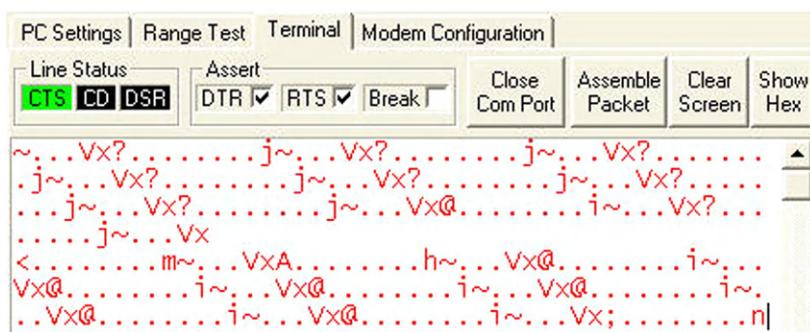

FIGURE 3.6 A raw-data message from an XBee transmitter looks like this.
Step 14. Click on the Terminal tab in X-CTU and click on Clear Screen. Then apply power to the XMTR module. You should see a display of somewhat random characters start to appear in the Terminal window as shown in Figure 3.6.